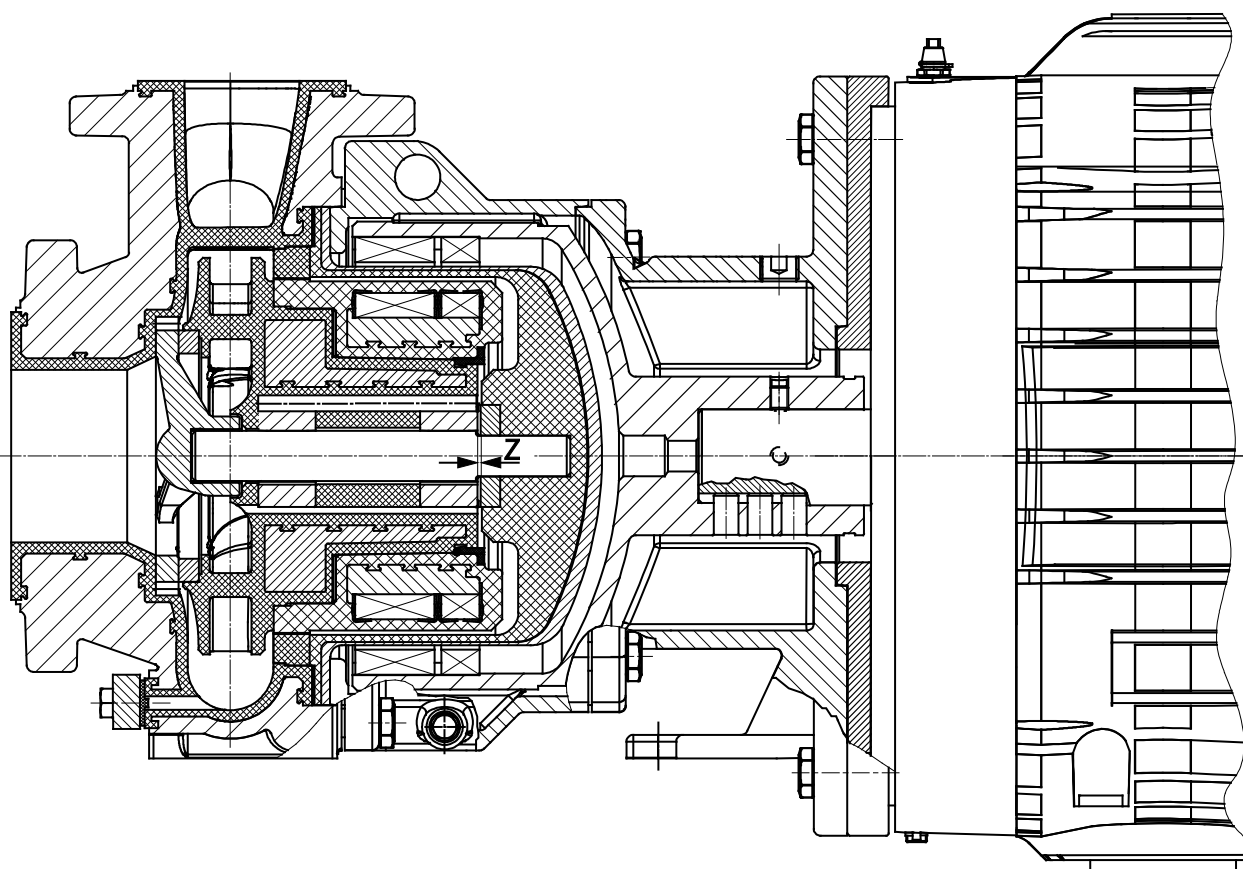

Fig. 8
The plain bearings require a minimum axial play for perfect functioning. This axial play "Z" must be checked using the drawing **Fig. 8** after completion of assembly.
- ◆ Check whether the thrust ring protrudes about 2 mm out of the impeller. See **Fig. 8**.